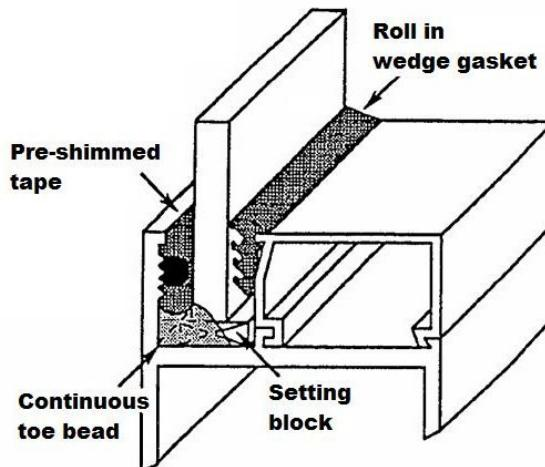

figure 5
**Toe Bead** – A bead of sealant placed between a gasket or extruded glazing tape and the sash or glazing. The bead must be large enough to contact the edge of the glass after setting. Like the heel bead, this is a secondary line of defence against water and air penetration (see Figure 5).